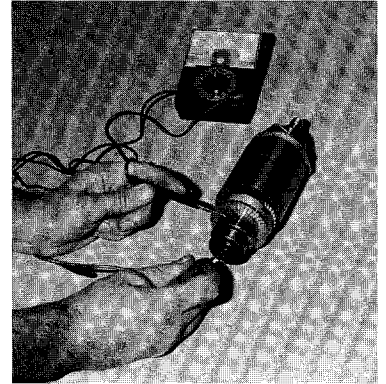

Figure 5-31
1. Place one test probe on the commutator and the other to the armature core. Continuity tester should not light or VOM should read infinity (∞) (Figure 5-31).